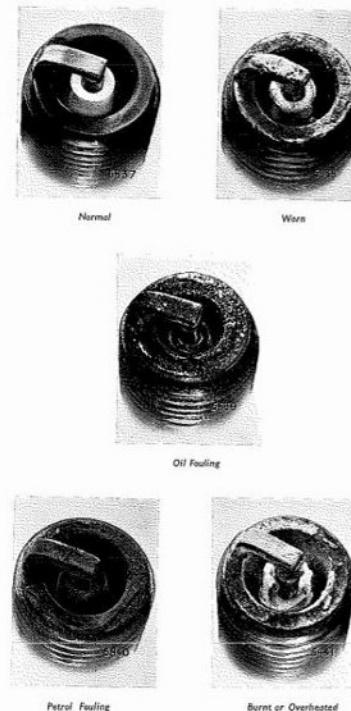

Fig. N.37. Conditions of sparking plugs
1. Examine the plugs, referring to Fig. N.37 which
Oil Fouling. This condition is usually identified by wet sludge deposits (see Fig. N.37) traceable to excessive oil entering the combustion chambers through worn rings and pistons, excessive clearances between inlet valve guides and stems, or worn bearings, etc. "Hotter" running sparking plugs may alleviate oil fouling temporarily but to cure oil fouling, engine overhaul is called for.
Petrol Fouling. This condition is usually identified by dry black fluffy deposits which result from incomplete combustion (see Fig. N.37). Too rich an air-fuel mixture, excessive use of hand choke or faulty choke action can cause incomplete burning. In addition, defective contact breaker points or high tension cables can reduce voltage supplied to the sparking plug and cause misfiring. If fouling is evident in only a few cylinders, sticking valves may be the cause. Excessive idling, slow speeds or stop-and-start driving can also keep plug temperatures so low that normal combustion deposits are not burned off.
Burnt or Overheated sparking plugs are usually identified by a white, burnt or blistered insulator nose and badly eroded electrodes (see Fig. N.37). Inefficient engine cooling and incorrect ignition timing can cause general overheating. If only some of the sparking plugs have suffered overheating, the cause may be uneven distribution of the coolant. Severe service, such as sustained high speed and heavy loads, can also produce abnormally high temperatures in the combustion chamber, which necessitates use of "cooler" running sparking plugs.